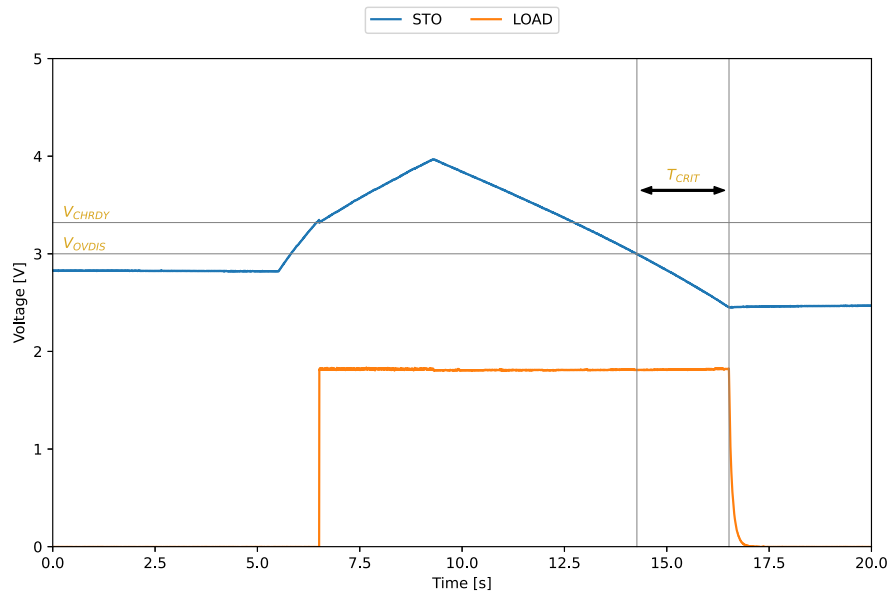

Figure 4: AEM13920 LOAD output behavior
- Disconnect the power supply or SMU from **SRCx** (done at about 9 s on Figure 4).
Please note that, in a real application, the storage element would be a battery or a supercapacitor, with much higher stored energy, so that V_{STO} would not drop as low as on Figure 4 during **T_{CRIT}**.